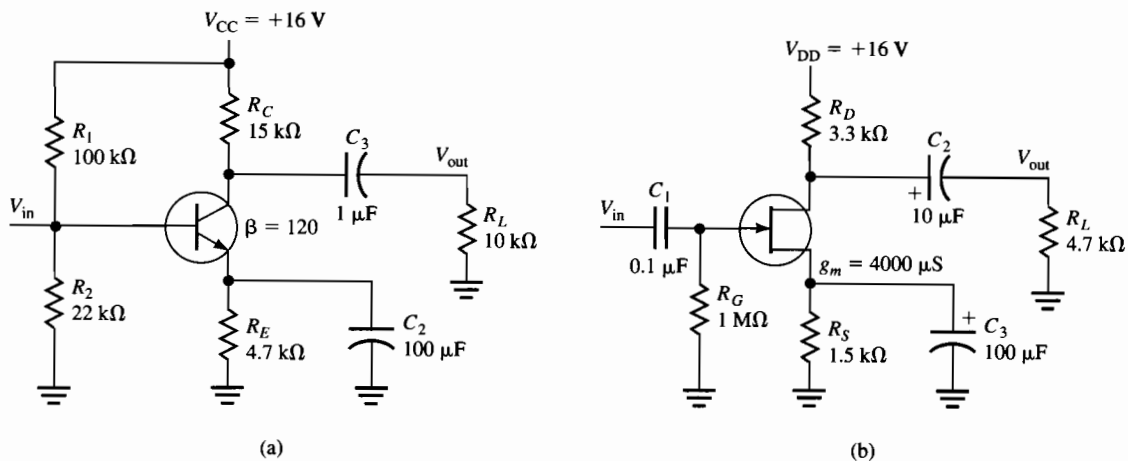

Figure C-19-1
12. For the circuit in Figure C-19-1, assume the emitter and collector currents are the same. Compute the following dc parameters:
13. For the circuit in Figure C-19-1(a), compute the following ac parameters:
14. For the circuits shown in Figure C-19-1, compare the input resistance of the bipolar transistor amplifier with the JFET amplifier.
15. For the JFET amplifier in Figure C-19-1(b), assume that g_m is $4000 \mu\text{S}$. Compute the gain.